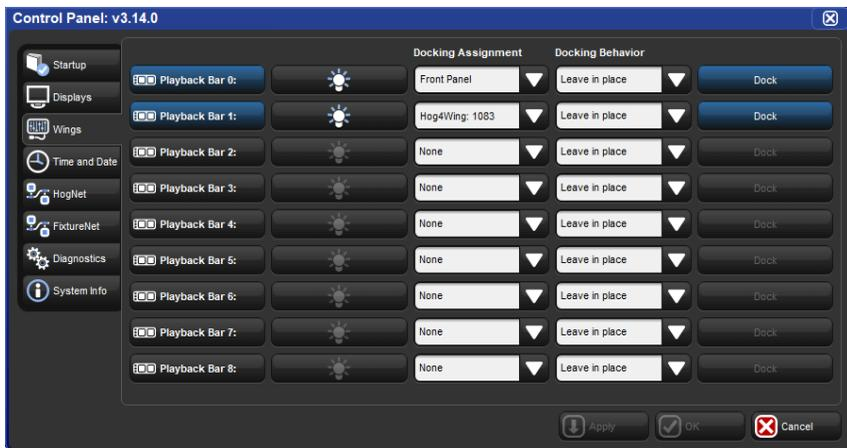

Figure 3.9. Wings pane of the Control Panel with active front panel and wing docking assignments
2. Setup → Control Panel → Wings: open the Wings pane of the Control Panel window (see Figure 3.9, "Wings pane of the Control Panel with active front panel and wing docking assignments").